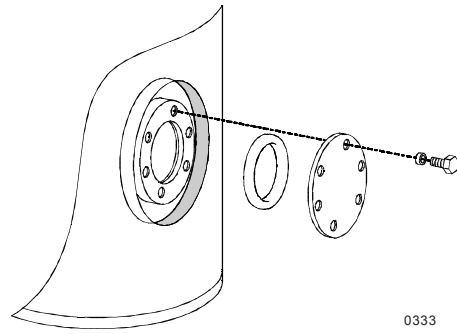

Figure 6 - Inspection opening
4. Remove the access cover plate from the tank by unscrewing and removing the bolts and washers, (see figure 6);
5. To make sure water tightness of the access cover the rubber O-ring must be replaced when the access cover is refitted, (see figure 6).